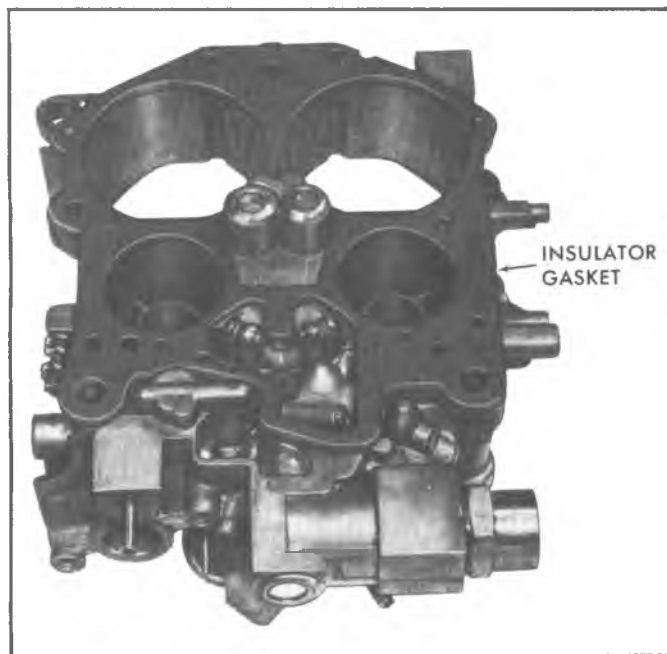

Fig. 19MQ—Removing Insulator Gasket
- Remove throttle body to bowl insulator gasket (Fig. 19MQ).